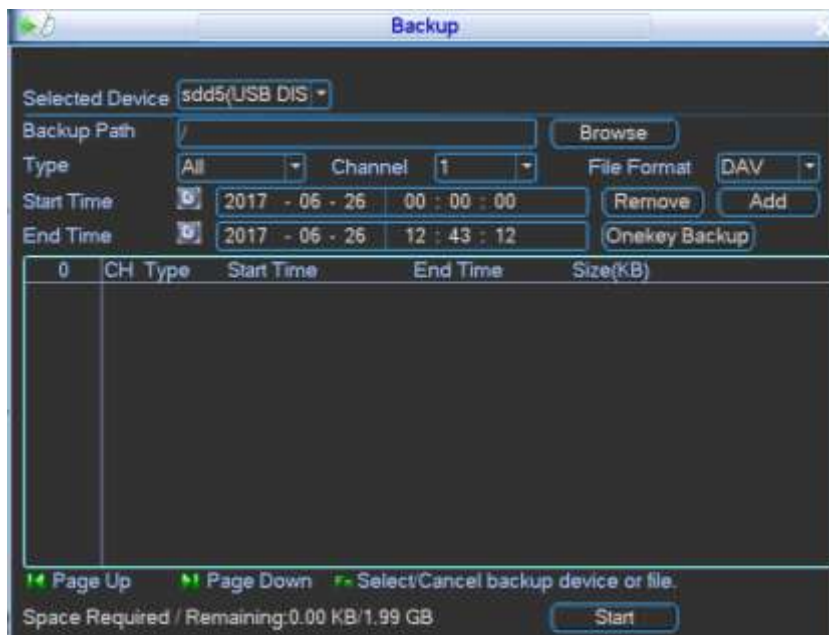

Figure 4-86
- Step 4 Click add button, system begins search. All matched files are listed below. System automatically calculates the capacity needed and remained. See Figure 4-86. System only backup files with a ✓ before channel name. Click Fn or cancel button to delete ✓ after file serial number.